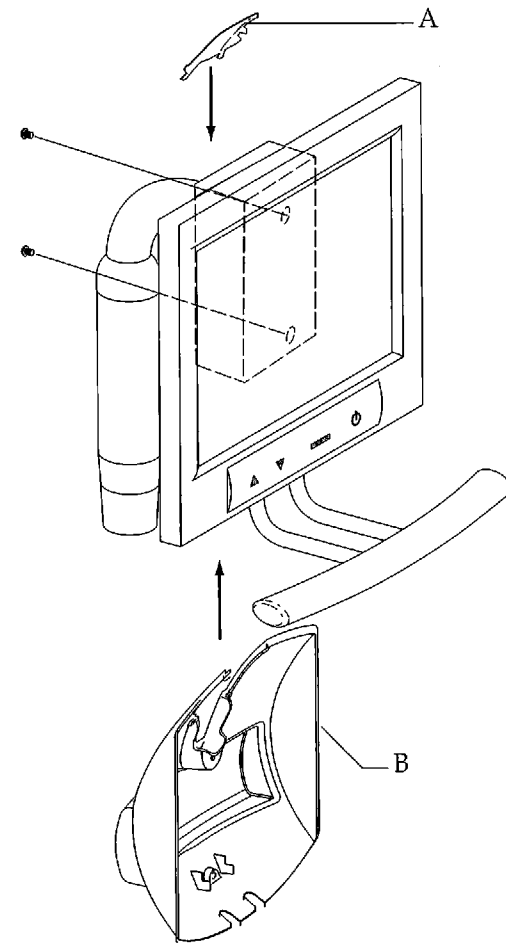

Figure 75. Installing the front-mount monitor covers. (A) snap-on cover; (B) back monitor cover
1. Place the back monitor cover under the monitor-mount post, see Figure 75.